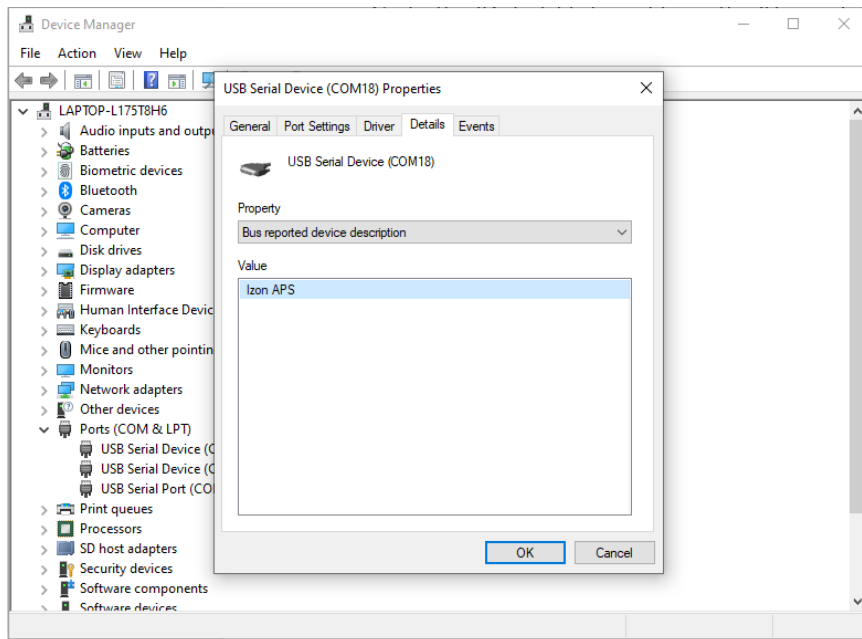

Figure 2: 'Bus reported device description' noted as 'Izon APS'.
- d. The Value should read 'Izon APS' for the APS, as shown in figure 2. Make note of the COM number associated with the APS as you will need it to select from the Port list on the APSTester.